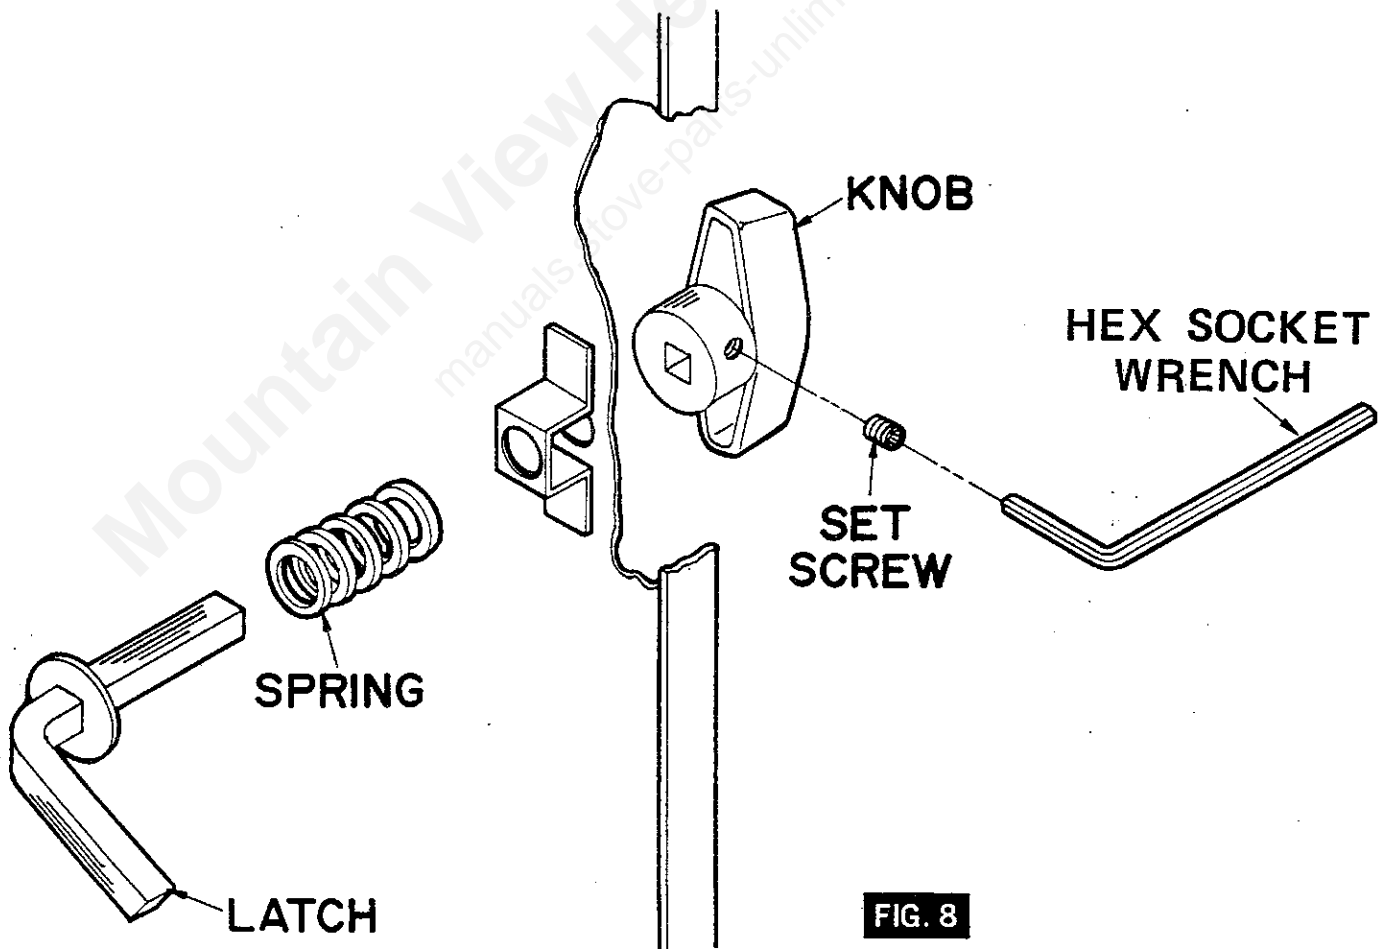

FIG. 8
Remove handle assembly from ash pan. Items in bag should include: (SEE FIG. 8).
1. The connector pipe may be pushed into the chimney too far, stopping the draft (Fig. 8).